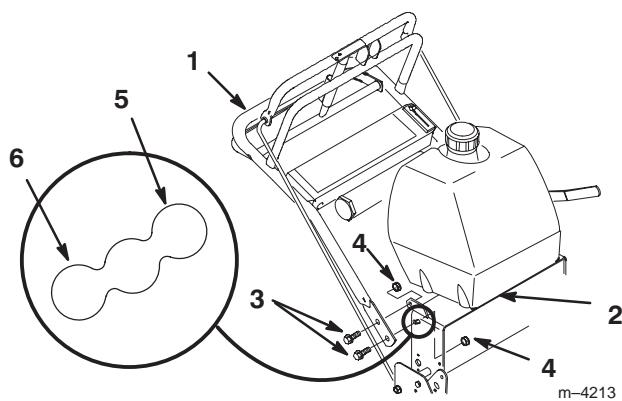

Figure 2
1. Position handle outside frame and align upper handle mounting holes. Select desired mounting holes for high, medium or low position according to operators height (Fig. 2).
2. Secure each side with (2) 3/8-16 x 1" (26mm) bolts and (2) 3/8-16 locknuts (Fig. 2).